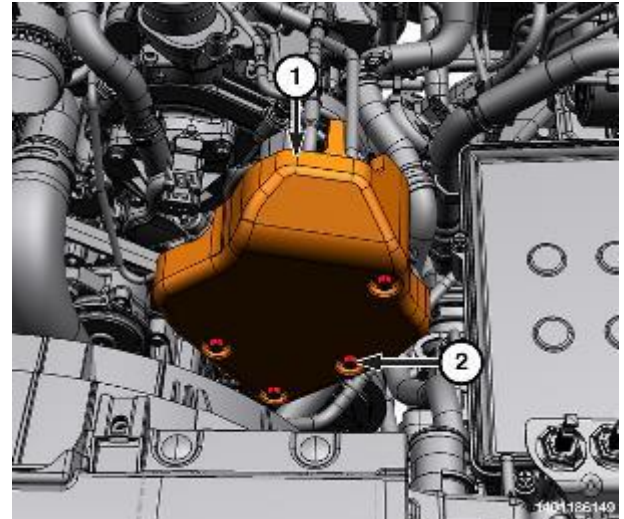

Figure 181 – HPFP Blocker Plate
12. Remove the fuel injection pump blocker plate bolts (2) and the fuel injection pump blocker plate (1) from the fuel injection pump (Figure 181).